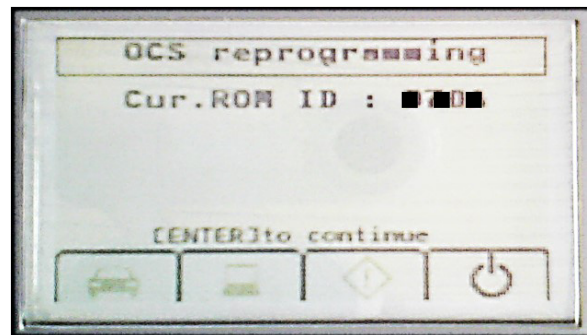

Figure A8
- If the Airbag Diagnostic Sensor Unit **does not** require reprogramming, the process will skip to OCS reprogramming (Figure A8 on the next page).
10. When reprogramming is complete, the screen in Figure A8 (next page) will display.